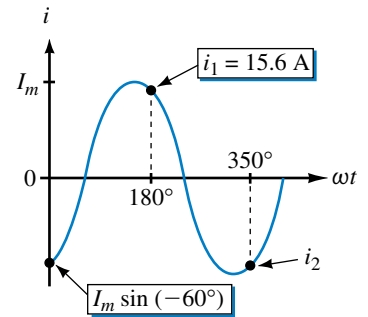

FIGURE 15–87
40. For the waveform of Figure 15–87, determine i_2 .